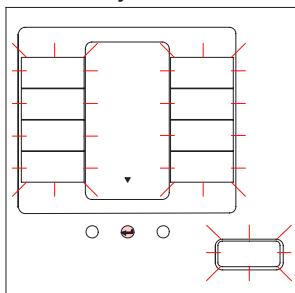

Fig. 26 General selection screen
- Press the Enter key to go to the general selection screen (fig.26).